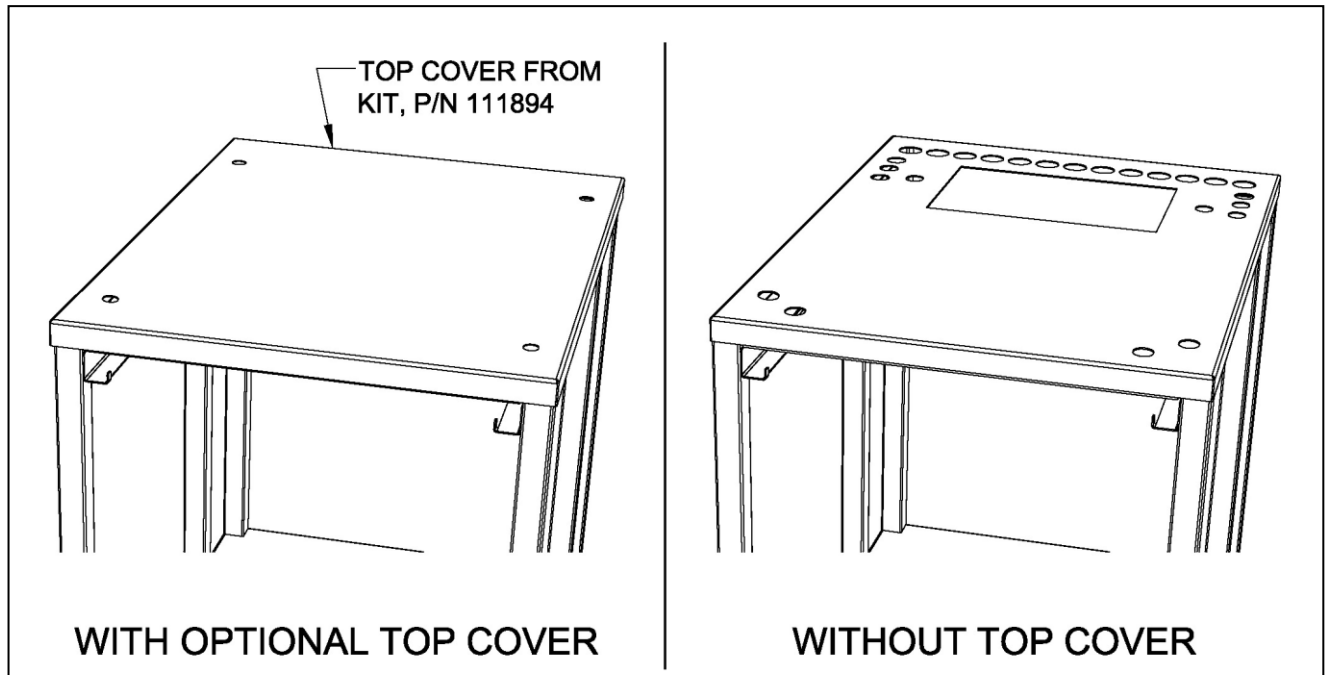

Figure 8
3. Set the steamer directly on stand as shown in Figure 8 on the next page.
- If Optional Top Cover is used, see Figure 8 on Page 9.